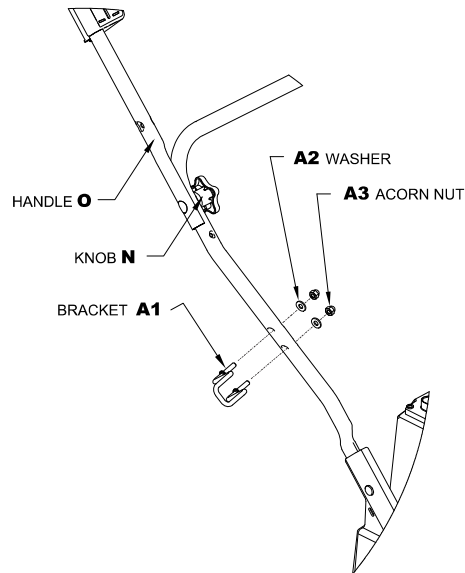

FIG.2
6) Assemble both hose storage brackets to left and right sides of operator handle as shown in FIG.2